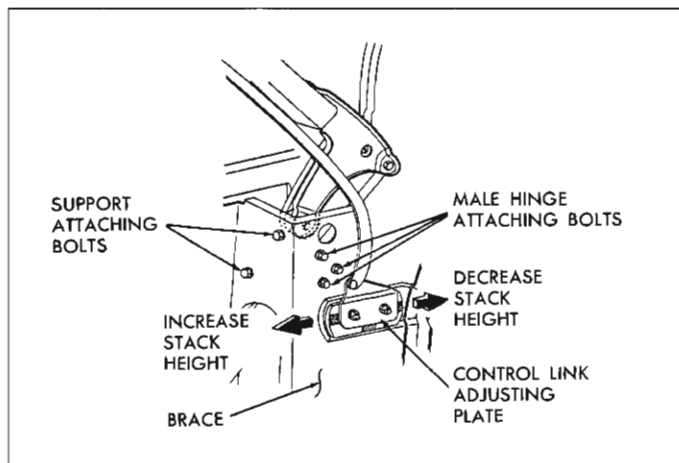

Fig. 51—Folding Top Mechanism
- c. Loosen two bolts securing control link adjusting plate sufficiently to permit adjustment of plate (fig. 51).
- b. Loosen three male hinge assembly attaching bolts (see Figure 51).
- a. Loosen male hinge assembly attaching bolts and, loosen male hinge support front attaching bolts (see Figure 51).